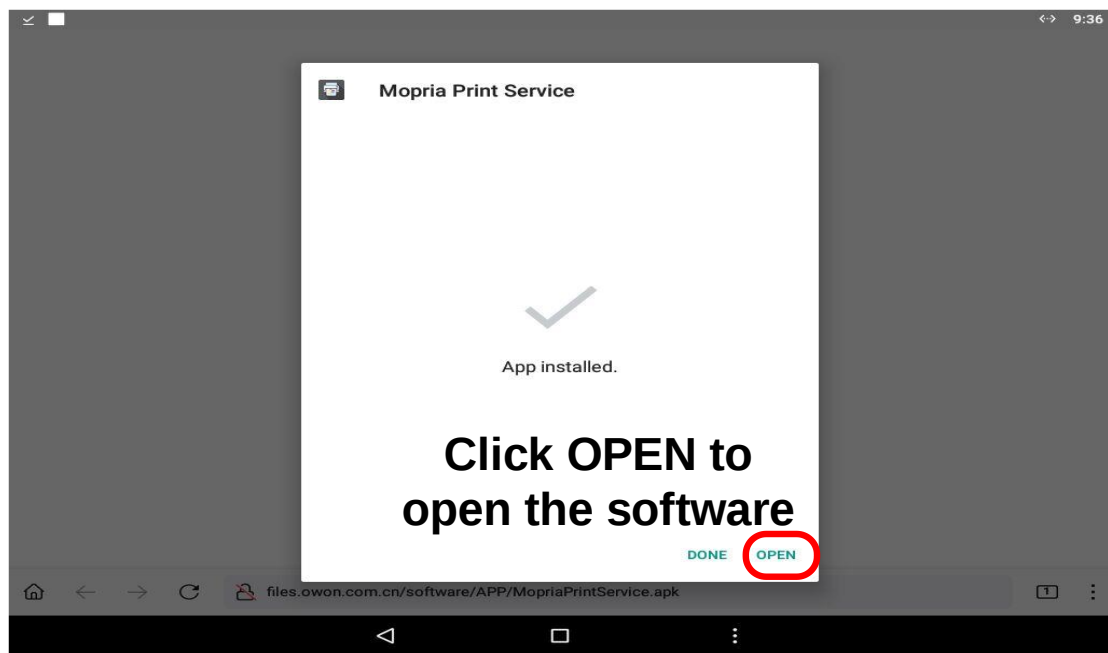

Figure 5
2、 In website install print app,steps as shown in Figure1 to Figure 5.
⑤After install success, click **OPEN** can open print app. As shown in Figure 5.